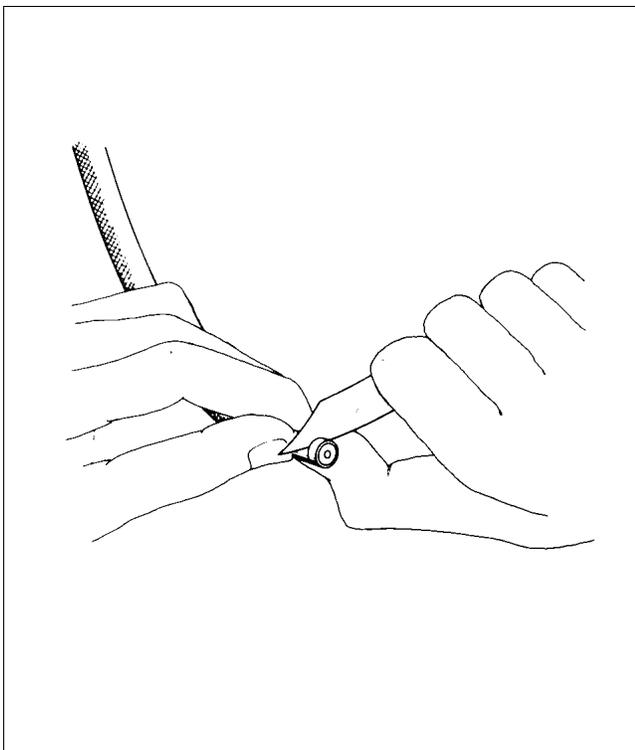

Figure 74-18. Cutting Insulation
5. Cut exposed insulation 0.125 inch back from end and roll insulation clockwise to remove. Do not use a pulling motion when removing insulation. Trim end of coiled conductor to make a clear hole for inserting stud. (Refer to Figure 74-18.)